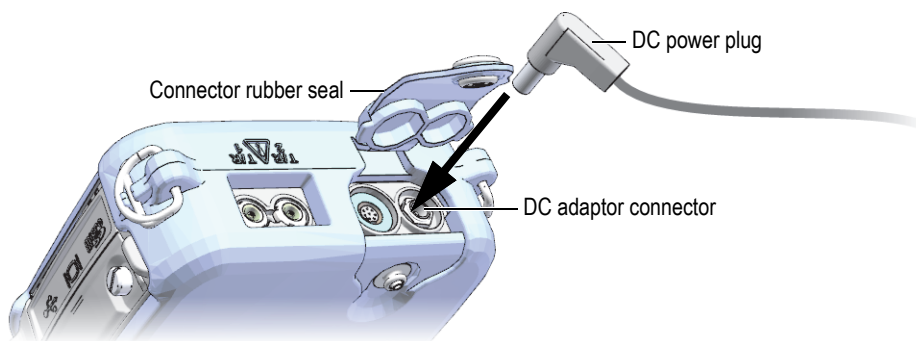

Figure 2-3 Connecting the DC power plug
2. On the 39DL PLUS, lift the rubber seal covering the DC adaptor connector on top of the 39DL PLUS (see Figure 2-3 on page 47).
3. Connect the DC power plug from the charger/adaptor to the DC adaptor connector (see Figure 2-3 on page 47).